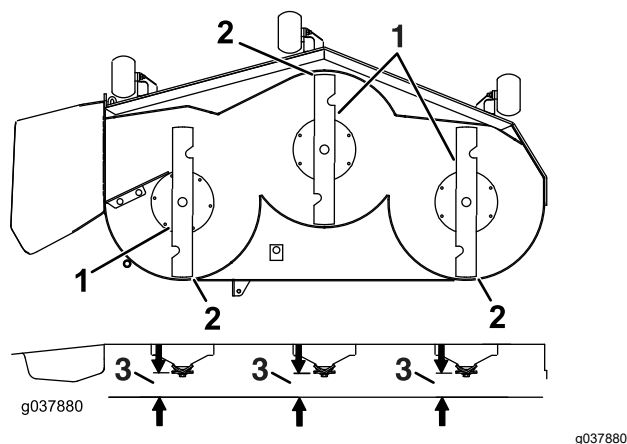

**Figure 100**
6. Measure between the blade tip and the flat surface (Figure 100). If both measurements are not within 5 mm (3/16 inch), adjust the leveling; continue with this procedure.
14. Carefully rotate the blades side to side (Figure 100).